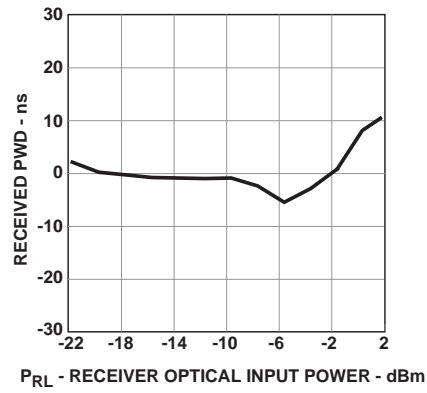

Figure 8. Typical POF receiver pulse width distortion vs. optical power at 12 MBd
- Receiver overdrive ($P_{RL,max}$) is specified as the limit where $|PWD|$ will not exceed 30 ns. The receiver will be in the correct state (logic “0”) for optical powers above $P_{RL,max}$. However, it may not meet a 30% symbol period PWD if the overdrive limit is exceeded. Refer to Figure 8 for PWD performance at high received optical powers.